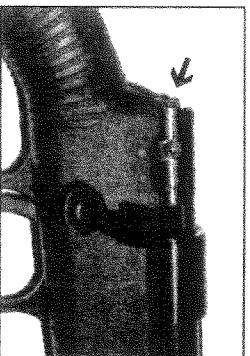

Figure 7
1. All **Wind River Magnum and Cascade Magnum** rifles are equipped with a thumb actuated trigger blocking safety. The safety should be manually engaged to the rearward (green) position for safe setting (Fig. 7). Move the safety button to it's forward (red) position to fire.